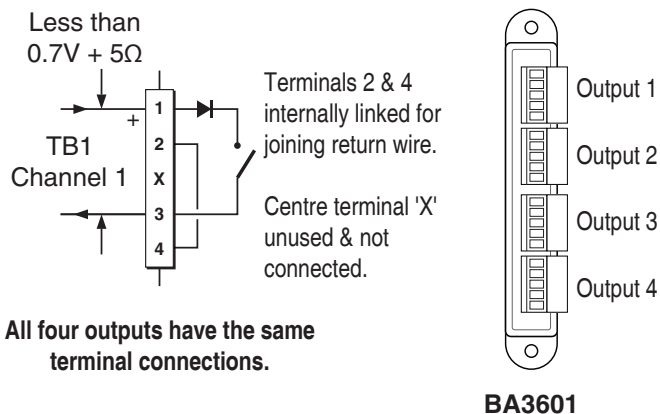

Fig 3 Output terminals
3. Connect field wiring to each of the four removable output terminal blocks. All the outputs are identical as shown in Fig 3. Each of the four outputs is a separate intrinsically safe circuit and field wiring should comply with segregation requirements specified in IEC / EN 60079-14. If a multicore cable is used for the outputs, it should have Type A or B construction as specified in Clause 16.2.2.7 of IEC / EN 60079-14 Wiring should be supported to avoid damaging the module's terminals.